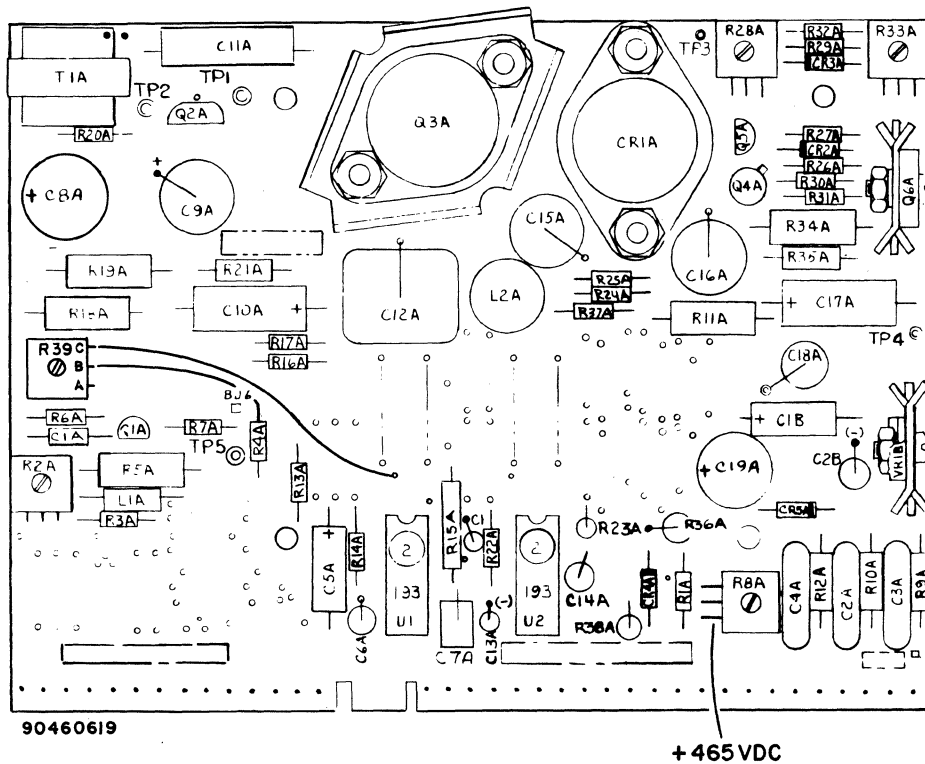

Figure CRT29. Test Point for +465-V dc
- 5) Connect red (+) lead to resistor R8A (figure CRT29).